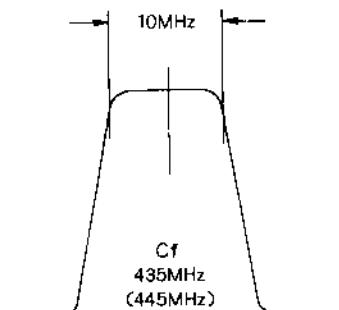

Figure 3
- c) Adjust TC₃₀₀₁, TC₃₀₀₂ and CV₃₀₀₂ until the scope pattern illustrated in Figure 3 is obtained.